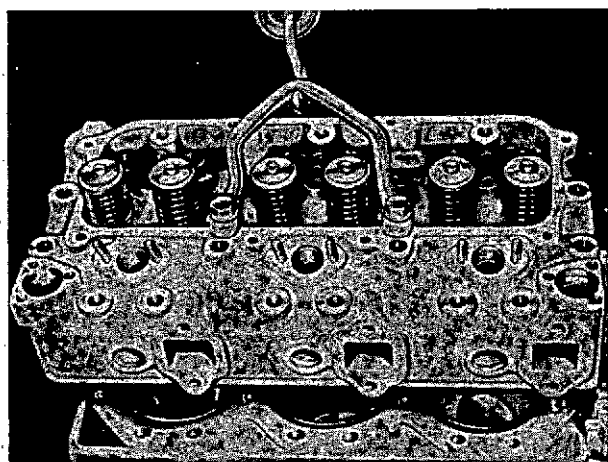

Fig. 3 Lifting cylinder head
16. Cylinder heads. Slacken the setbolts and capnuts in tightening sequence (see Section 3). Using slinging attachment GA.13, lift off each head (fig. 3) taking care not to damage the oilway stud. Remove the coolant transfer bobbins, cylinder head joints and their rollpins, and oilway studs.